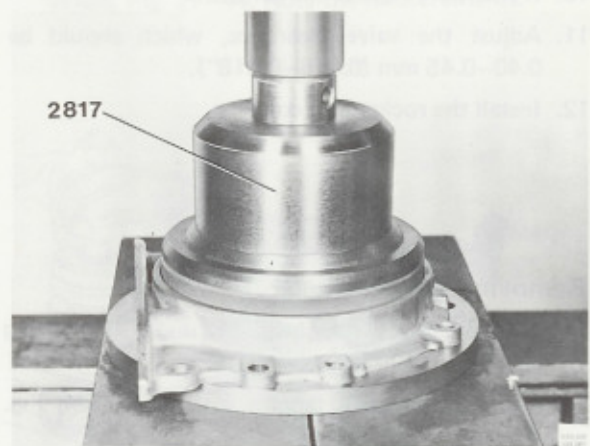
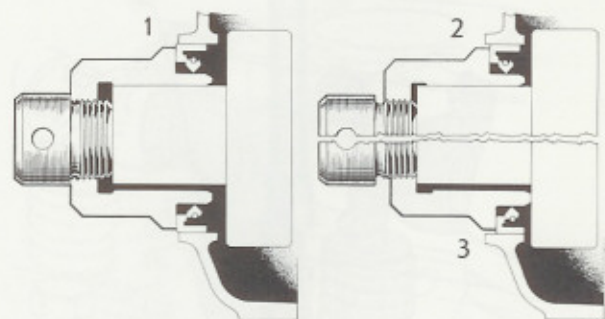

Fig. 21-47. Pressing in sealing ring
Fig. 21-48. Locations of centre bolt on tool 2817
6. Press in the sealing ring with tool 2817, Fig. 21-47. **NOTE!** First inspect the wear surface of the crankshaft. The sealing ring can be installed in three positions with 2817, see Fig. 21-48. With a new crankshaft or with a crankshaft without noticeable wear on the surface, place the sealing in its outer position (centre bolt screwed in fully). With wear marks on the crankshaft, place it with the centre bolt screwed out two threads or screwed out fully.